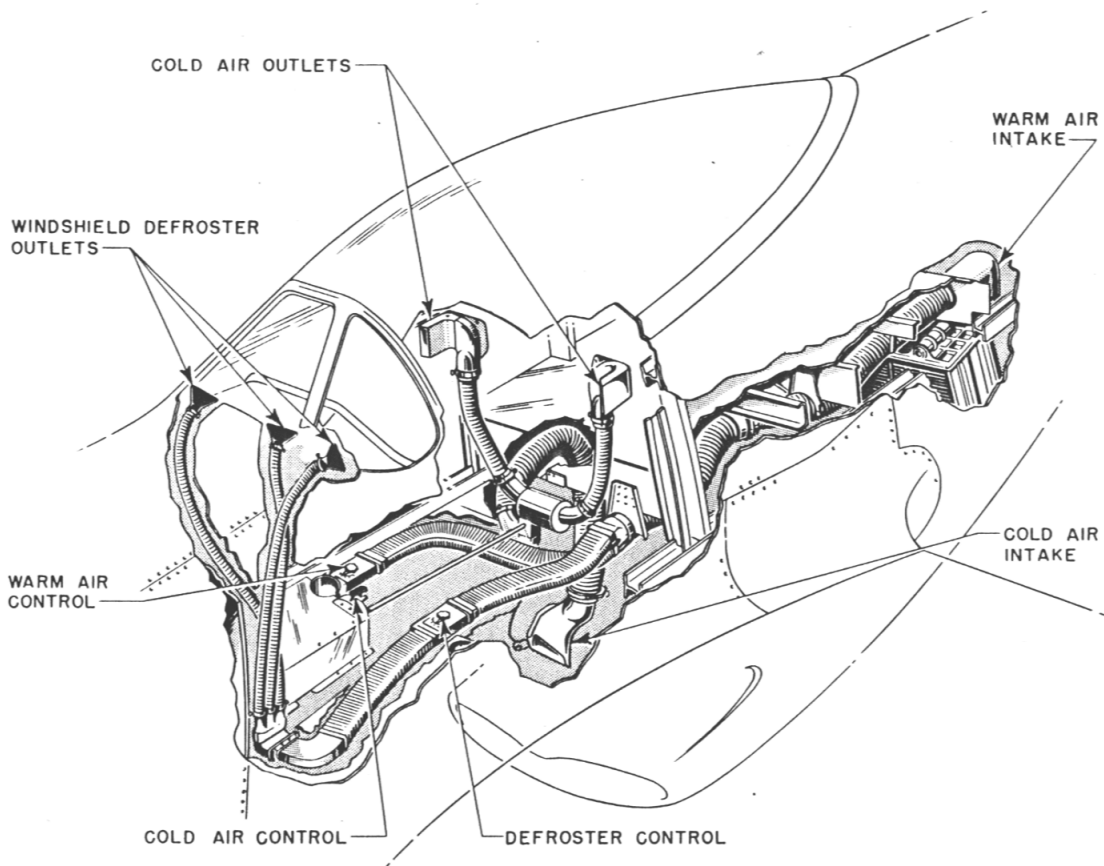

Figure 42—Heating, Ventilating, and Defrosting Systems
a. COCKPIT HEATING AND DEFROSTING.—Warm air from aft of the coolant radiator is utilized to heat the cockpit and to defrost the windshield and left side window (*see figure 42*). The cockpit hot air control is on the floor at the right of the control column; the defroster control is on the floor at the left of the control column.